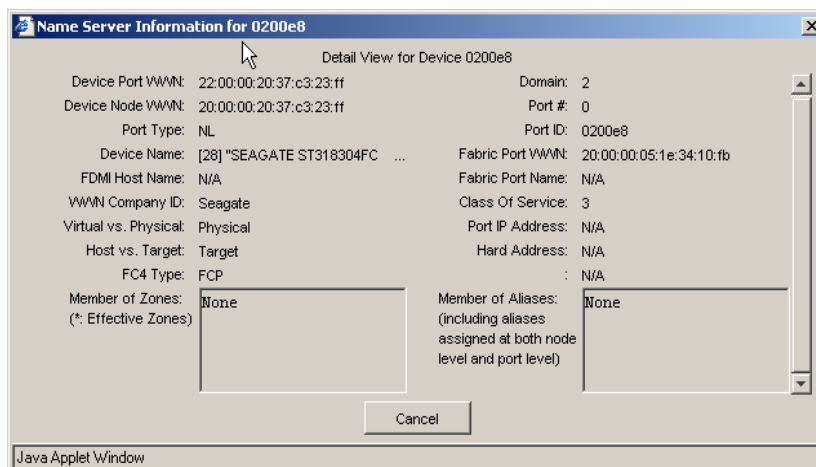

Figure 111 Name server information for a device
3. Select a device from the Domain column, then click the **Detail View** button to access the Name Server Information window (see Figure 111). You can also access the Name Server Information window by selecting the domain you want, right-clicking anywhere on the selected row, and clicking the **Detail View** selection.